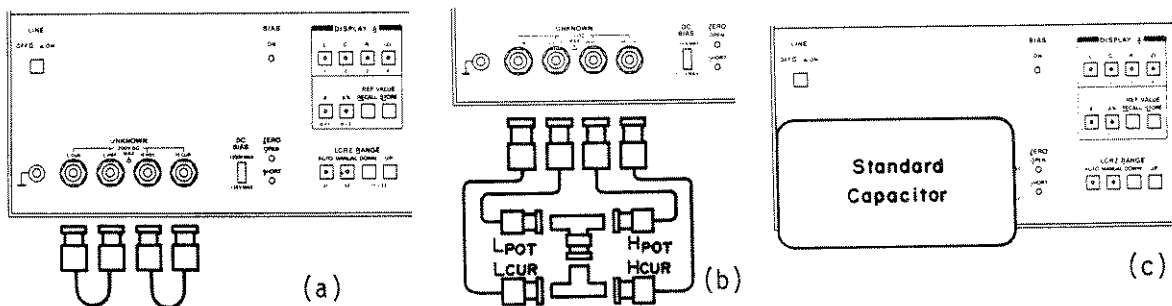

Figure 4-4. Capacitance Accuracy Test Setups.
1. Connect L_{CUR} and L_{POT} terminals with standard Resistor Set as shown in Figure 4-4 (a). Similarly Connect H_{CUR} and H_{POT} terminals.
3. Press ZERO OPEN button and wait until offset adjustment is completed (see Figure 4-4).
4. Connect cables and terminal adapters as shown in Figure 4-4.